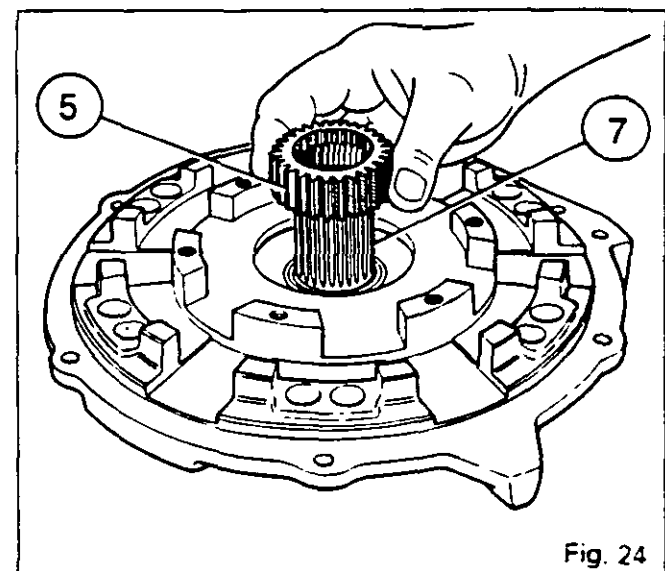

Fig. 24
70. On the primary shaft (7) fit the splined hub (5) with its internal splines pointing upwards (Fig. 24). Fit the discs (3) and the driven plates (2).
71. Fit the two other brake discs (15), separated by the pressure plate (17).
72. Reinstall the springs (20). Fit the O-rings (19) and (73).
73. Check that the blanking plugs (23) and (29) are in place. Make sure that the supply holes to the front and rear piston chambers in the spacer housing (21) are not obstructed.
74. Lubricate O-rings (24) and (26) and fit them respectively in the front piston (22) and in the spacer housing (21).
76. Screw two diametrically opposed guide studs into the spacer housing (21) and position it on the front cover (13), making sure that the spacer housing lubrication hole meets up with the corresponding passage in the cover.
77. Remove the guide studs. Fit and tighten the bolts (18) to a torque of 29 - 37 Nm. Connect a pressure gauge fitted with a shut-off valve to the front piston orifice. Connect a 0,3 bar compressed air line to the circuit. Close the shut-off valve and check that no pressure drop occurs within 1 minute.
78. If it was removed, reinstall the bearing (27) on the primary ring gear (31). Place the secondary ring gear (34) on the secondary ring gear carrier (1). Coat the bolts (33) with Loctite 241, fit and tighten to a torque of 12 - 16 Nm.